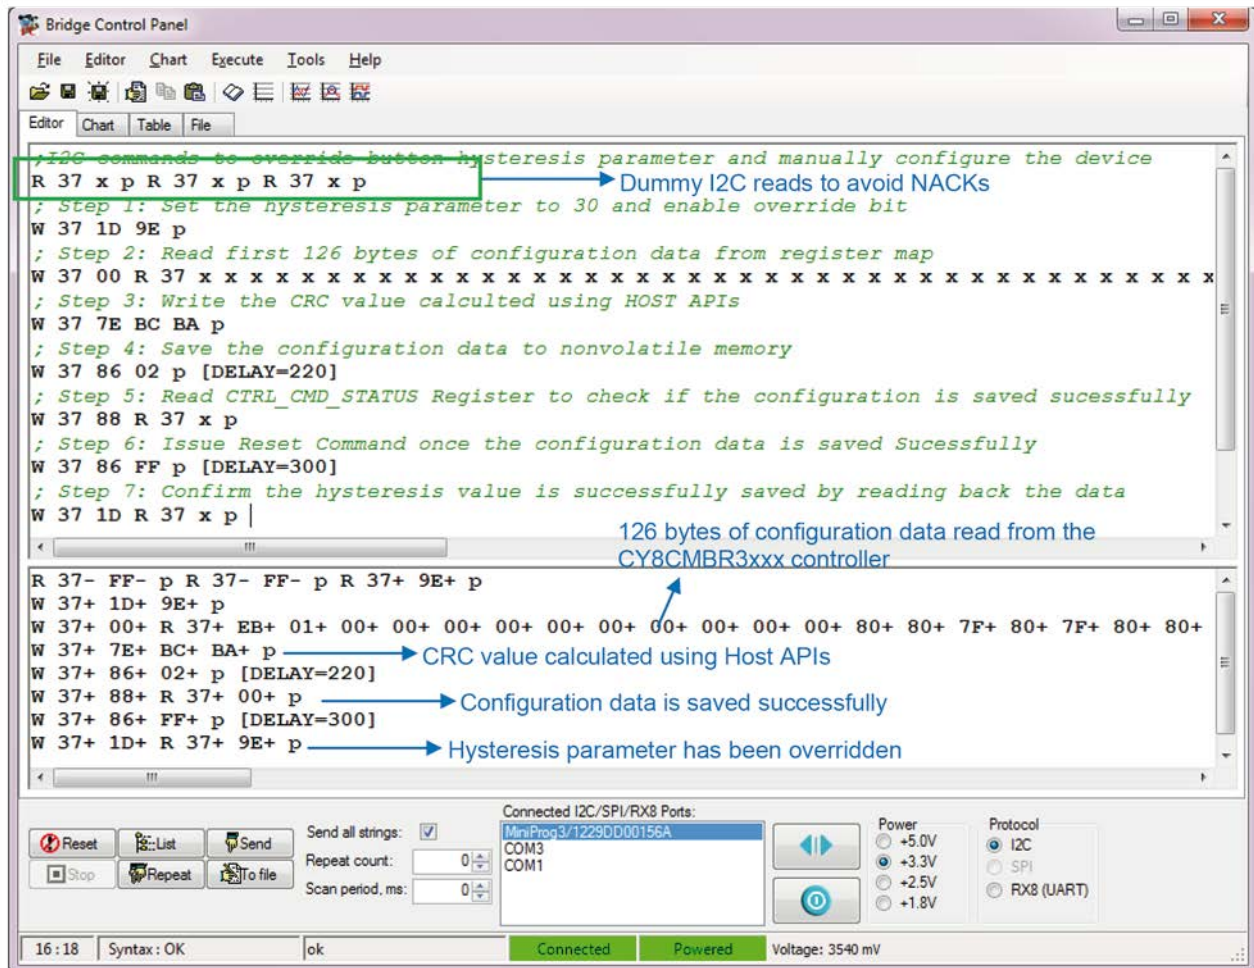

Figure 5-26 Writing to CONFIG\_CRC by Calculating the CRC Using Host APIs
Configuring CY8CMBR3xxx by entering custom commands in BCP is shown in Figure 5-26. In this method all the 128-byte configuration registers or any specific register can be configured. When the CY8CMBR3xxx is configured using the custom command, it is required to compute the Cyclic Redundancy Check (CRC) of the first 126 bytes of the configuration data and write it to CONFIG\_CRC (0x7E) register. This CRC value will be used by the CY8CMBR3xxx controller to verify the integrity of the configuration data.
When an I2C command (read/write) is sent to the CY8CMBR3xxx controller it might NACK the I2C transaction. In this case insert dummy I2C read transactions while writing or reading any register, as shown in Figure 5-26.
- Use the Host APIs to calculate the CRC value: Cypress provides Host APIs to configure the CY8CMBR3xxx using host processor. The Host APIs have source code, which can be used to compute the CRC value of the 126 bytes of the configuration data. The user should use this code to calculate the CRC and write the calculated CRC value to the CONFIG\_CRC (0x7E) register, as shown in Figure 5-26. The procedure to calculate the CRC is explained in the section 5.2.4.2. It is highly recommended to use this method to calculate the CRC value.